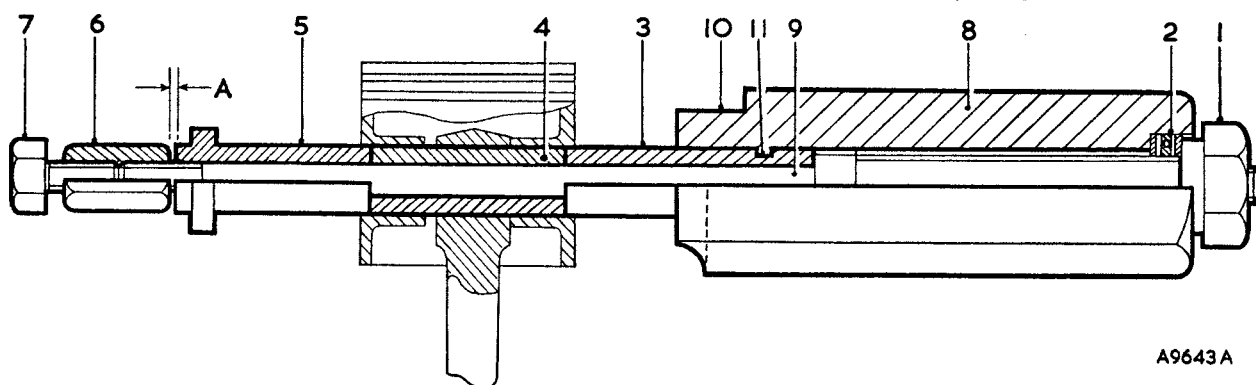

Fig. Aa.4
- (4) Retain the hexagonal body (8) of Service tool 18G 1002 in a vice with the cut-out (10) uppermost (see Fig. Aa.4).
- (5) Screw the large nut (1) back until it is flush with the end of the centre screw (9), push the screw and nut forward until the nut contacts the thrust race (2).
- (6) Slide the parallel sleeve (3), short length diameter first, on to the centre screw up to the shoulder.
- (7) Place the piston assembly on the centre screw, then fit the remove/replacer bush (5), longest diameter portion towards the piston.
- (8) Screw the stop nut (6) onto the centre screw and adjust it until there is approximately $\frac{1}{32}$ in. (.8 mm.) end-play in the whole assembly, ensuring that the parallel sleeve and the remover/replacer bush are correctly located in the gudgeon pin bores on both sides of the piston.
- (9) Lock the stop nut securely in position with the lock screw (7).
- (10) Check that the curved face of the body is clean, then slide the piston assembly carefully into position against the curved face. Check that the piston rings are over the cut-out in the tool body.
- (11) Screw the large nut (1) up to the thrust race (2).
- (12) Hold the lock screw (7), not the stop nut, with a spanner, and turn the large nut (1) until the gudgeon pin is withdrawn from the piston.